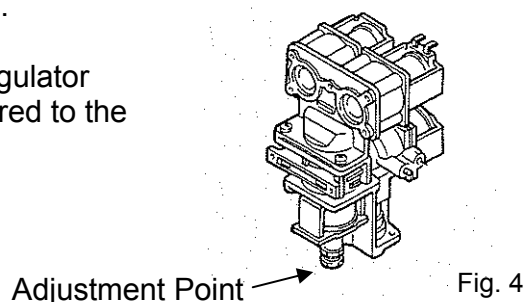

Fig. 4
12. Remove rubber access plug and adjust the regulator screw on the modulating valve (Fig. 4) as required to the pressure below. Replace rubber access plug.